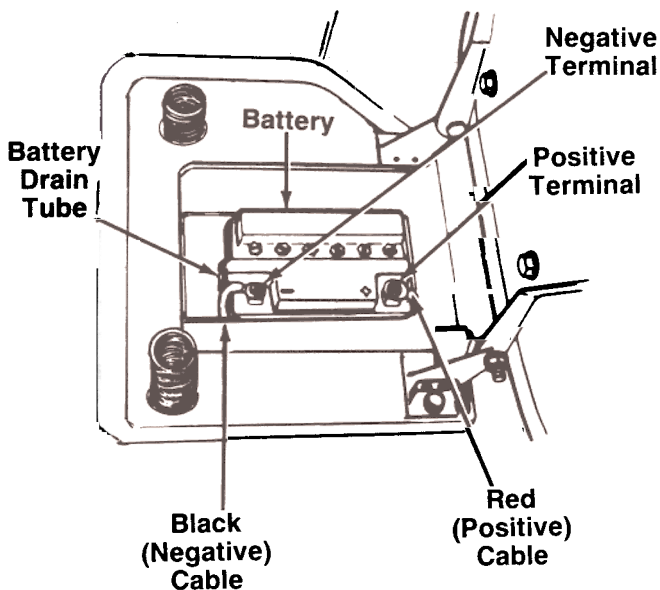

FIGURE 4.
4. Remove the hex bolt from the positive (+) terminal. Place the positive cable on the positive terminal. See figure 4. Secure with hex bolt. Be careful not to lose the nut inside the terminal.